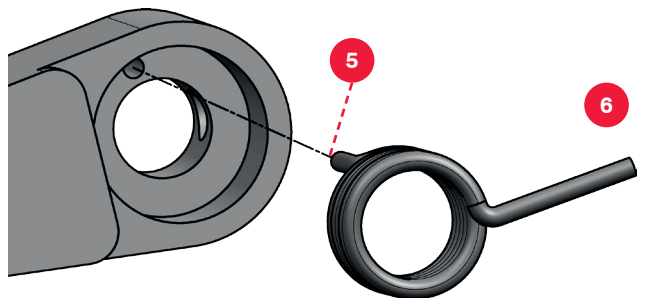

Fig. 18
- When inserting the spring **4** in the safety latch **1**, the spring leg running parallel to the axial direction **5** must be inserted into the drill hole on the inside of the safety latch (fig. 18).